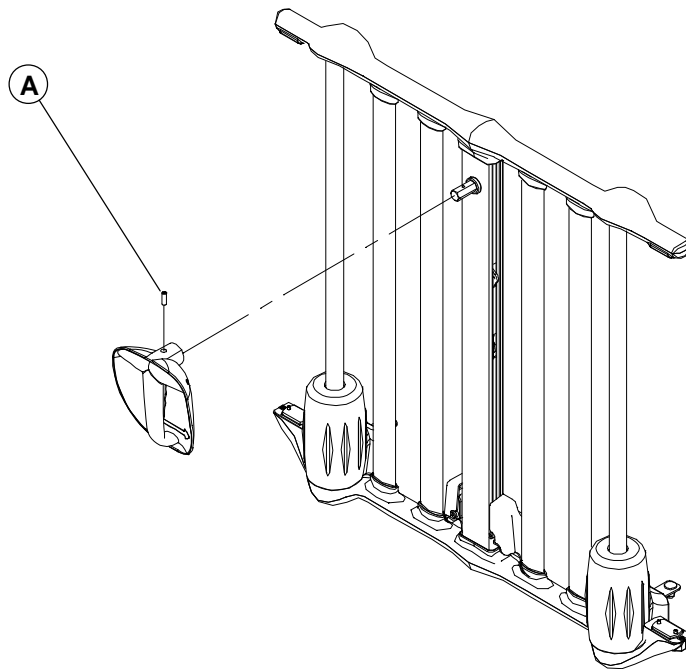

Figure 3.15A
2. Using a 3/32" Allen Key, remove the set screw (A, fig 3.15A, page 42) holding the handle assembly to the shaft. Remove the handle assembly.
3. Using a Phillips screwdriver, remove the eight screws (B) holding the rail upper plastic cover (C) to its lower counterpart (D). If working on a siderail, open the access doors to reach the last screw on each end of the lower plastic cover. Note that on a siderail with fixed access doors, these two last screws are not present.